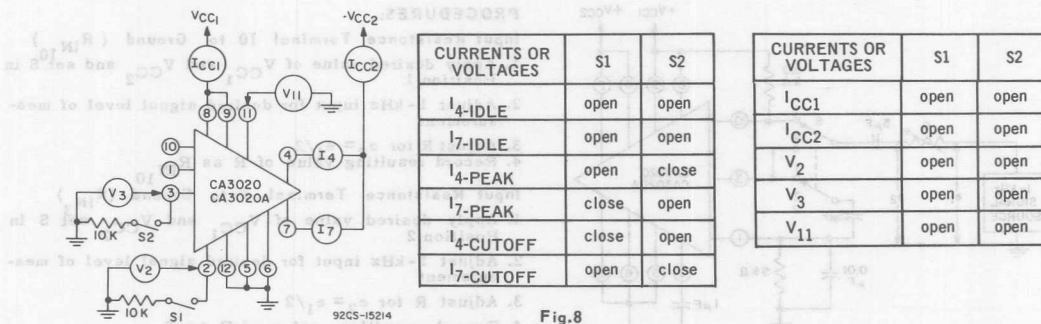

Fig.8
* Refer to Figs.8 through 12 for Measurement and Symbol Information.